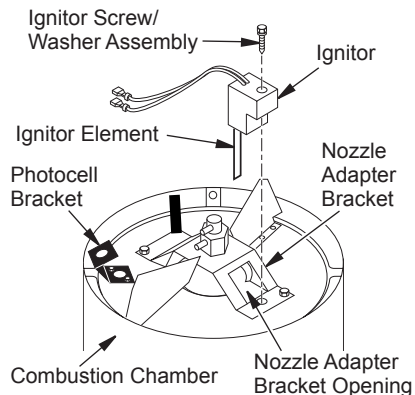

Figure 18 - Ignitor Replacement
6. Remove combustion chamber. Stand combustion chamber on end with nozzle adapter bracket on top (see Figure 18).
- Carefully guide ignitor into opening in nozzle adapter bracket. Do not strike ignitor element. Attach ignitor to nozzle adapter bracket with screw using a 1/4" nut driver (see Figure 18, page 11). Torque 8 to 15 in. lbs. Do not over torque.